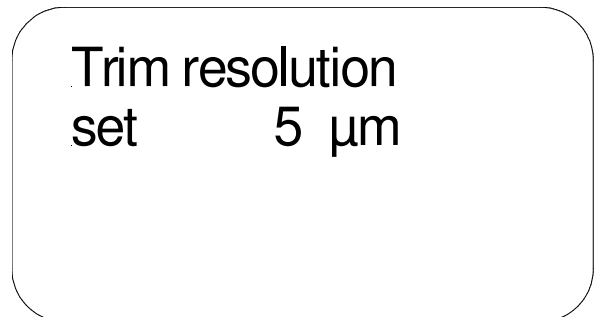

Fig. 29
- Here the following pre-selections can be chosen (fig. 29):